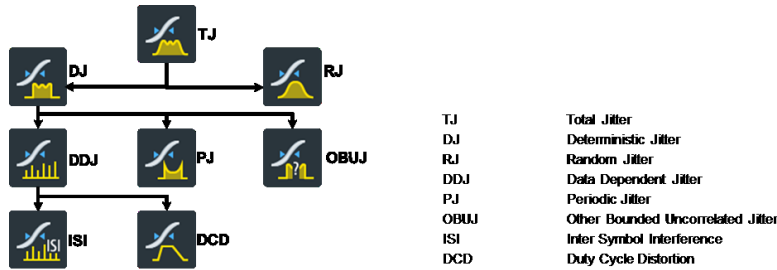

Figure 3-5 Overview of jitter components
Variation of the signal in time that leads to an incorrect decision at the receiver (RX). This will in turn create bit errors. Jitter analysis with jitter separation breaks down jitter and noise into individual components (bounded deterministic jitter DJ with sub-components and unbounded random jitter RJ) for characterization and debugging (see Figure 3-5).